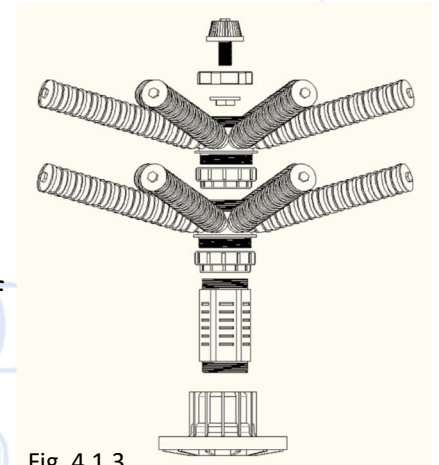

Fig. 4.1.3
- If the internal distribution was previously installed, (figure 4.1.3) check the distribution for any damage that may of have occurred in shipping. This inspection is critical because if the distribution is broken, media will be flushed into the service lines.